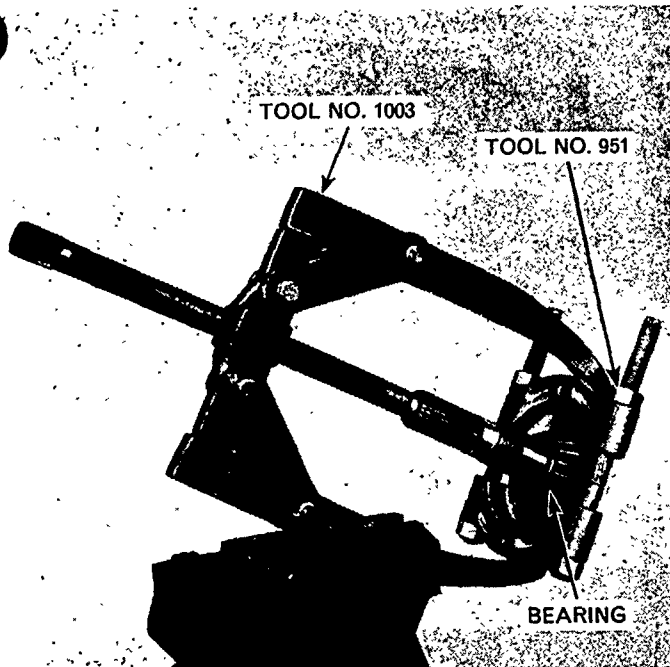
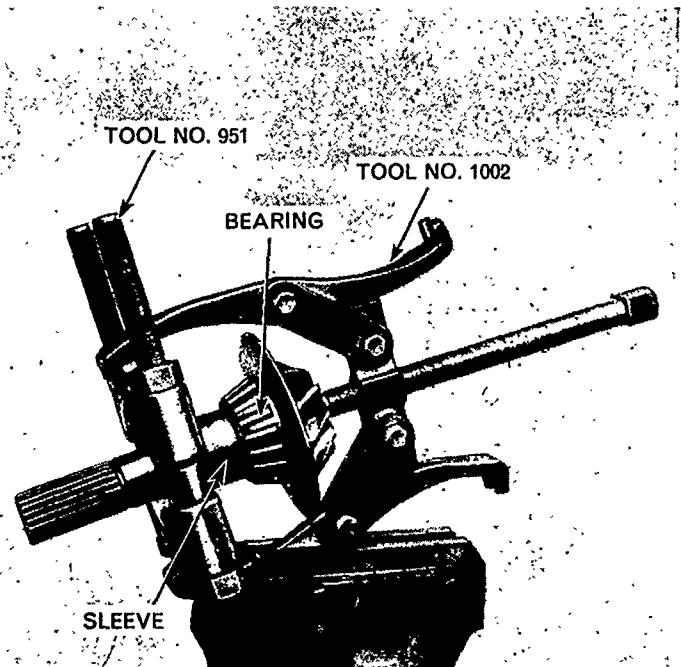

Figure 38
Figure 39
8. Remove the locknut, locking washer and adjusting nut from the handbrake shaft. It will be necessary to use Wrench Tool No. SW 5 to remove the nuts, Figure 38.
4. If it is necessary to install a new handbrake shaft inner cone and roller assembly remove the cone from the shaft using Tool Nos. 951 and 1003, Figure 38, and install a new cone and roller assembly using Tool Nos. 951, 1002 plus a suitable sleeve to enable the tool to press on the inner bearing race, Figure 39.